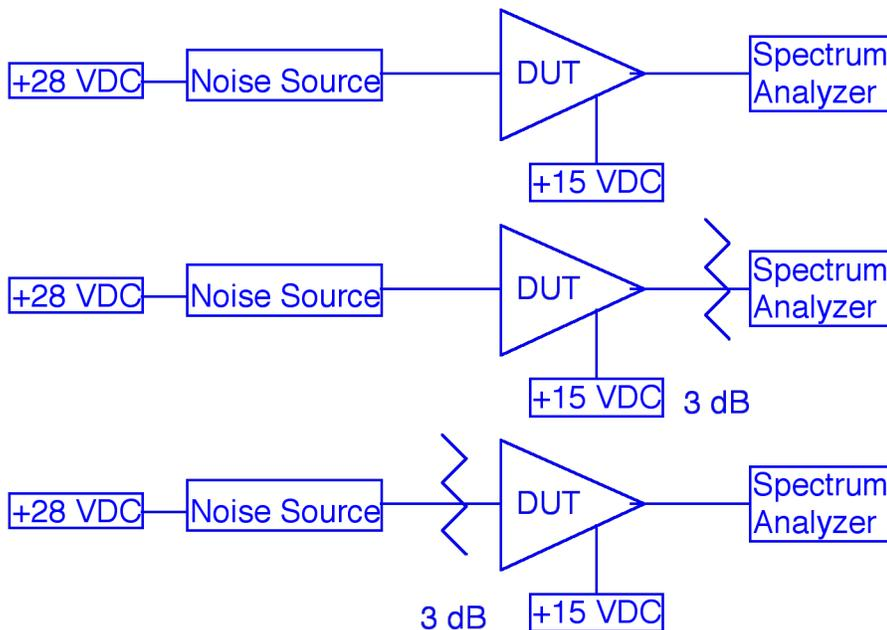

Figure 2
14. Hook up the amplifier and noise source as shown at the top of Figure 2 below.